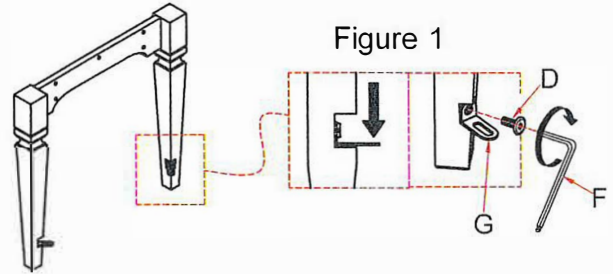

Figure 1
1. Turn Table Top on to a clean, soft surface. Attach Metal "L" (G) on the Leg frame by using Bolt (D) with Allen Key (F). (See Figure 1).